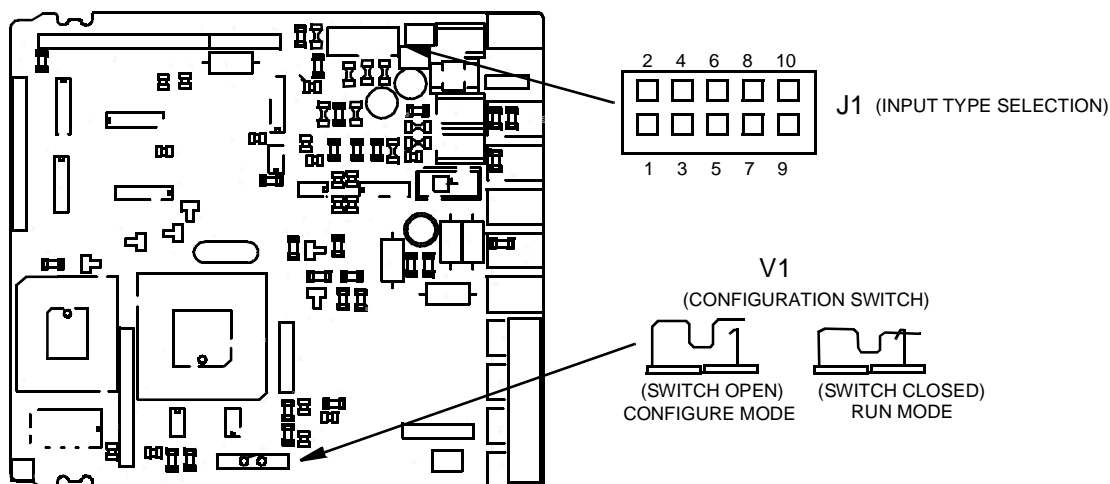

Figure 1. CPU Card, Component Side
2. Open switch V1 (see Figure 1 on page 9).